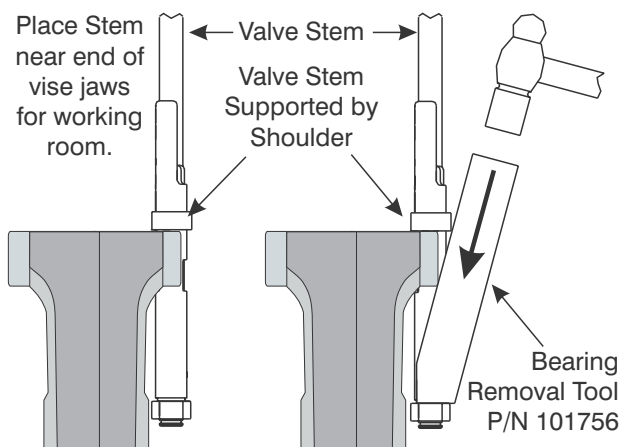

Figure 8-33. Drive the Spherical Bearing from the Valve Stem.
9. Verify that the Valve Stem is supported by the Stem shoulder resting on the top of the vise jaws. Lightly clamp the Valve Stem in the vise as shown in Figure 8-33.
10. Fit the Bearing Removal Tool, P/N 101756 to the assembled Spherical Bearing and Valve Stem as shown in Figure 8-33.